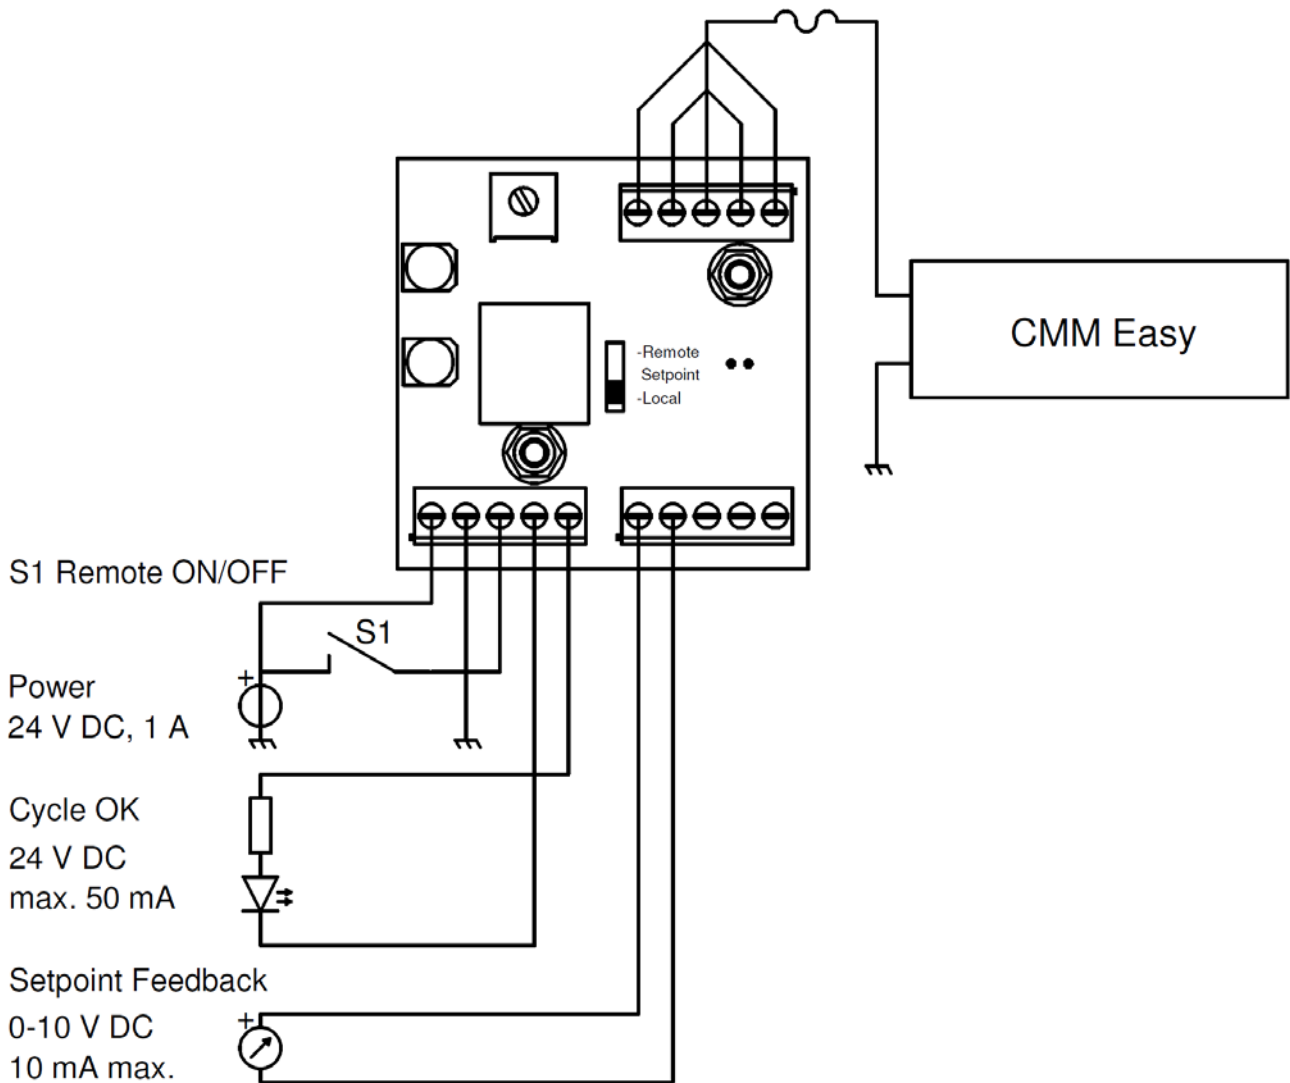

Fig. 7, wiring schedule External Control Kit with Local Setpoint
- For use with Local Setpoint (adjustable knob Control Kit): Connect the Control Kit according to fig. 7.